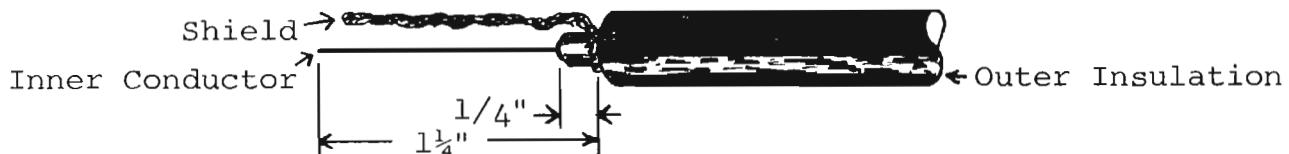

Figure 3-4. Coaxial cable preparation.
- ( ) Step 21. Install remaining length of coaxial cable (33"), composite video output. (See Figure 3-4 for details on how to prepare cable.)